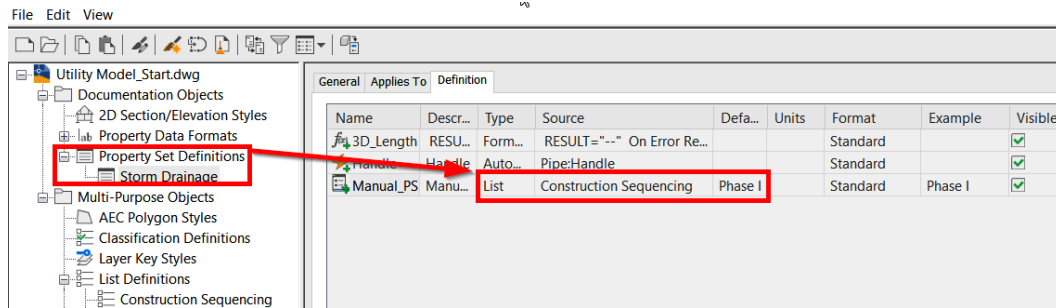

Figure 10.22 – Change type of Manual property set to List
- Once the **Storm Drainage** property set is selected, hop over to the **Definition** tab of our **Storm Drainage** property set and change **Type** to **List**, **Source** to **Construction Sequencing**, and **Default** to **Phase I**, as shown in *Figure 10.22*.